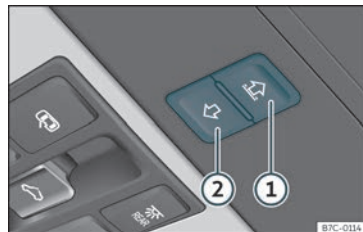

Fig. 85 On the interior roof lining: sunshade blind buttons.
Buttons >>> Fig. 85 ① and ② have two levels. The first level opens or closes the sun blind fully or partially.
- *Sun blind*: within approximately 5 seconds of having activated the anti-trap function, press button **>>> Fig. 85 ②** until the sun blind closes completely.